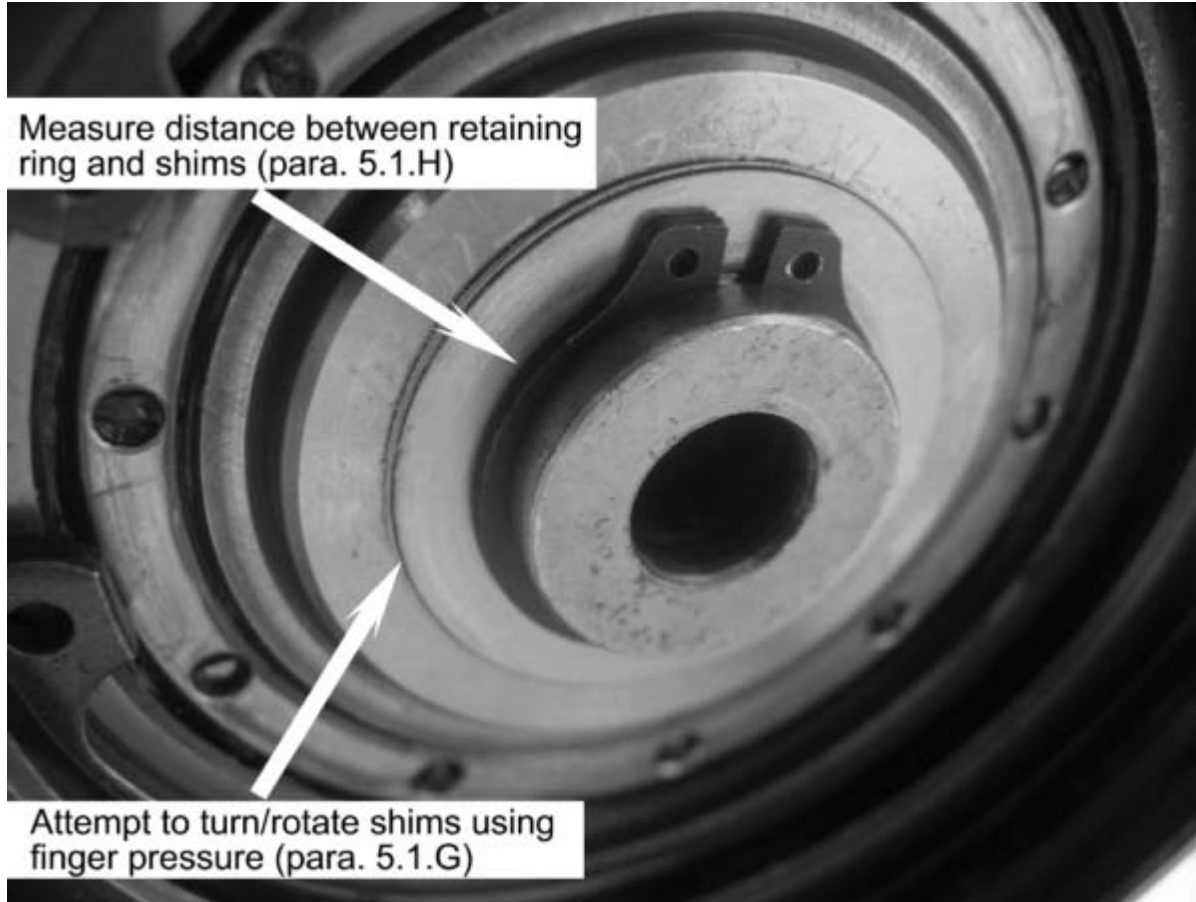

Figure 1.
- G. Using your fingers, attempt to turn/rotate the shims installed under the retaining ring on the end of the power output shaft (Refer to Figure 1).
- (1) If the shims cannot be turned/rotated using your fingers, remove the retaining ring from the end of the power output shaft and remove the shims. Separate and clean the shims. Reinstall the shims and retaining ring, and attempt to rotate the shims using your fingers.
- (2) If the shims cannot be turned/rotated using your fingers, remove the power output shaft from the aircraft and replace the ECD4017 bearing (MM, para. 11-11 thru 11-14, Use Tool T-0186 to assist with removal and replacement). When reinstalling the power output shaft, shim the power output shaft using the procedures in this SDB.
- (3) Proceed to the next step (para. 5.1.H) if the shims can be turned/rotated using your fingers.
- H. Using a feeler gauge, determine the distance between the retaining ring on the end of the power output shaft and the shim(s) (Refer to Figure 1). Record distance on the SDB Report Sheet (Measurement 1).
- (1) If the distance between the retaining ring and the shim(s) is .004" to .006", no further action is required.
- (2) If the distance between the retaining ring and shim(s) is greater than .006", remove the retaining ring and add shims until the distance is between .004" and .006".
- (3) If the distance between the retaining ring and shim(s) is less than .002", remove the retaining ring and shims and record the total thickness of shims on the SDB Report Sheet (Measurement 2). Recheck the aft end of the power output shaft for radial and axial play IAW para.5.1.C.; replace the bearing as required. If no radial or axial play is evident, reinstall the retaining ring and adjust the shim(s) to the .004" to .006" distance. Determine the difference between the thickness of the original shim installation verses the thickness of the adjusted installation. Record the difference on the SDB Record Sheet (Measurement 3).
- (4) (deleted)